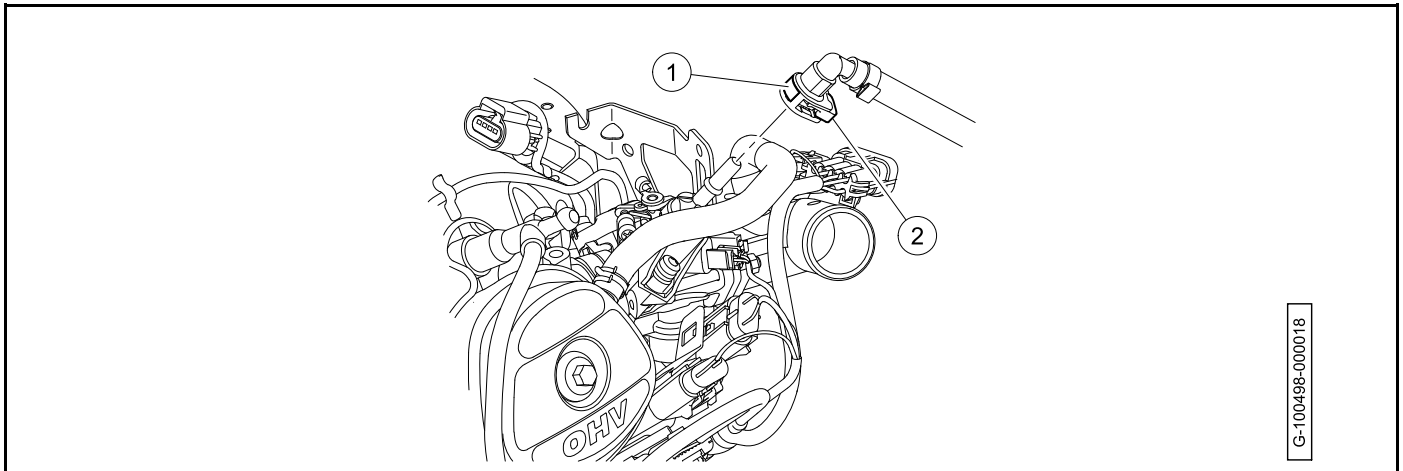

Figure 22-14
2. Push the fuel line (1) onto the nipple until it locks into place (**Figure 22-14**).